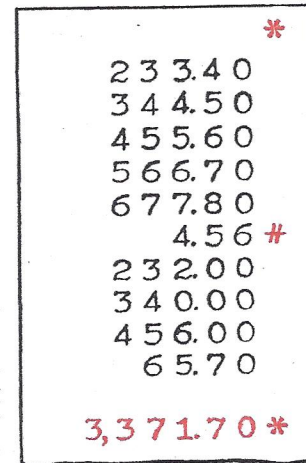

Figure 24
For instance, in Fig. 24, the item 4.56 was listed and accumulated in the adding wheels through error. Before subtracting the item from the accumulating section, mark the item by turning the platen back one notch and printing the symbol (#). Then set the complement of 4.56 into the keyboard, i. e., 9,999,995.44. Depress the Non-print key and depress the Operating Bar. The item is now subtracted from the machine. Release the Non-print key and continue the work. Complete information covering the "complement" of a number may be found on page 14.